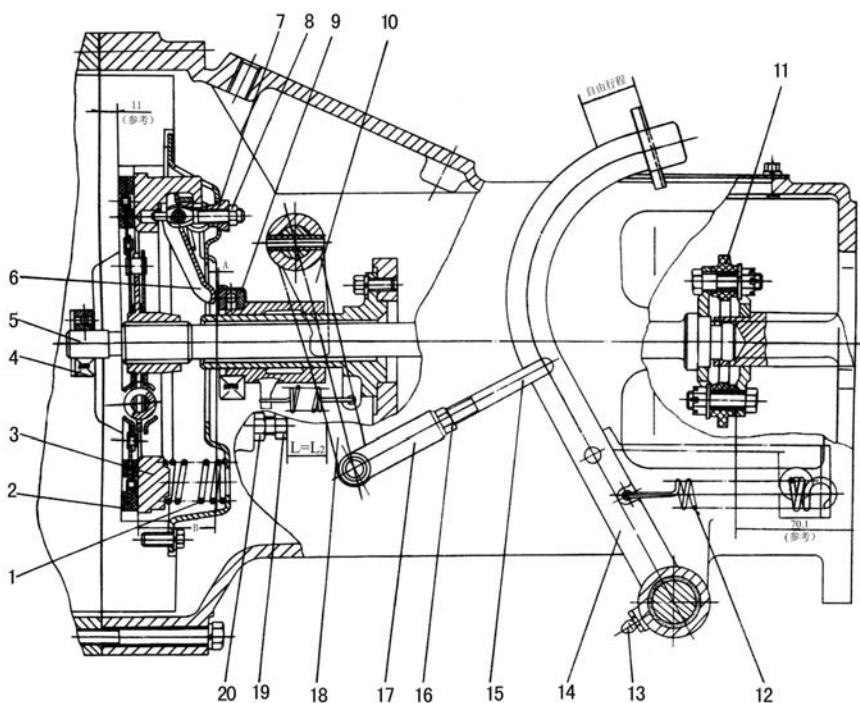

Fig.4-2 Single stage clutch
Fig.4-2 is single - disk and dry single stage clutch . It is made up of clutch spring(1), clutch driven plate(2) ,clutch pressure plate(3) ,release lever(6) ,adjusting nut (7) ,release bearing (9) and its operation mechanism.